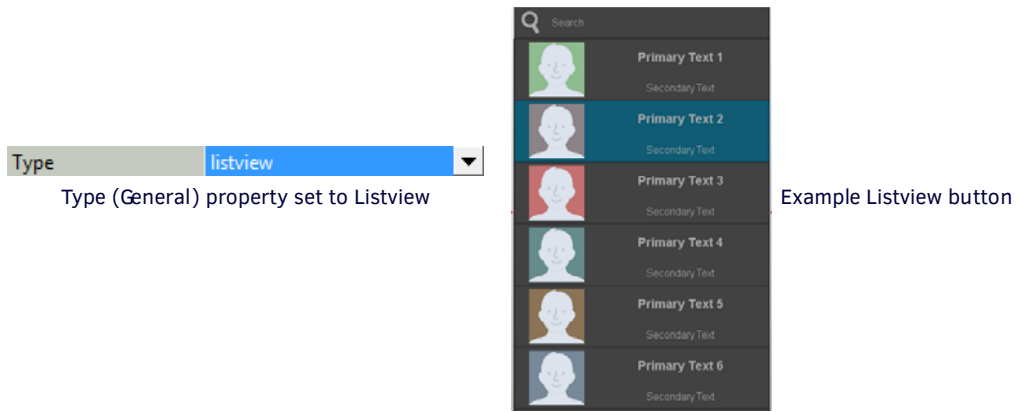

FIG. 156 Type (General) Property set to Listview
2. With the new button selected, click the **Type** (General) property and select **Listview** from the drop-down of button types. This selection sets the new button as a Listview button, and enables a set of Listview-specific properties (FIG. 156):